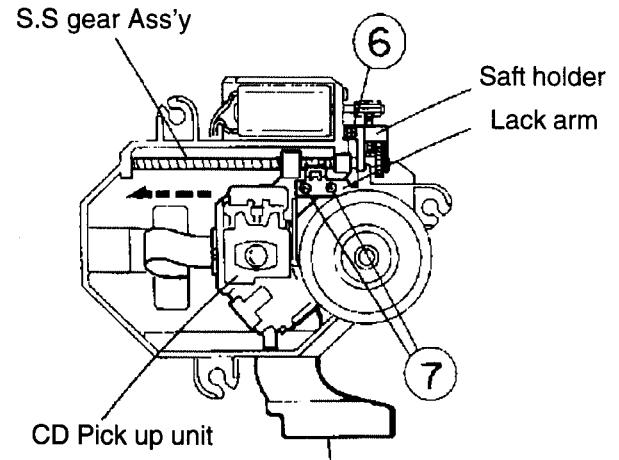

Fig.14
4. Shift the CD pickup unit in the arrow F direction (See Fig.14).
5. Remove the one screw #E retaining the shaft holder(See Fig.14).
6. After removing the two screws ⑦ retaining the rack arm, take out the S.S. gear assembly(See Fig.14).